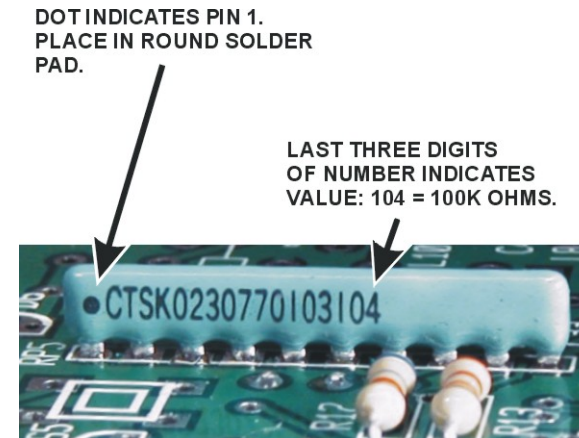

Figure 4. Installing Resistor Packs.
Locate resistor pack RP5, 100 k ohm (104). RP5 is a ten-pin in-line package whose number on the side ends in "104" (see Figure 4). If you are in doubt about the value, use your DMM to verify that the resistance between adjacent pins is 100k ohms. Note the dot at one end indicating pin 1.
Check the position of RP5 to verify that the pins at both ends are inserted as far as they will go into the board as shown in Figure 4, then solder and trim all ten leads.